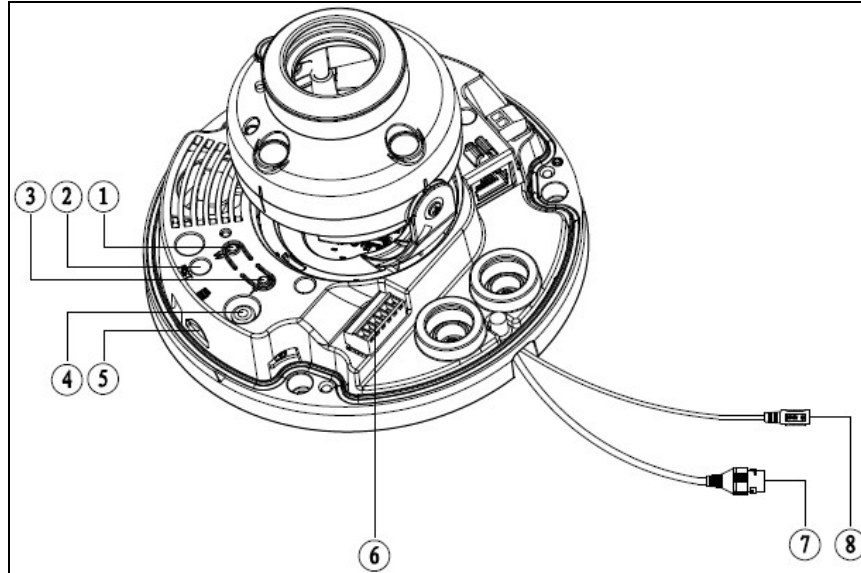

Figure 3-1
9. Connect the appropriate incoming and outgoing audio cables to the I/O terminal on the camera pedestal. Refer to Figure 3-1 for the location of the terminal.
10. Connect an alarm output device to the ALARM\_OUT port and to the ALARM\_OUT\_GND port on the I/O terminal. Note the alarm output is a Normally Open (NO) connection.
16. Connect an analog TV monitor to the Analog Video Output port, on the camera pedestal. This optional step assists with positioning and configuring the camera to produce the desired video scene. Then, press the Reset button for five (5) seconds to reset the camera and send the video signal to the analog output. Refer to Figure 3-1.